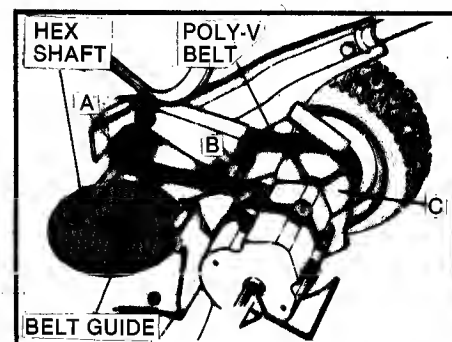

FIG. 18 -POLY-V BELT REPLACEMENT
POLY-V-BELT REPLACEMENT: The driven disc assembly must be removed first. Note the arrangement of the old belt around the three pulleys before cutting and removing it. Slip the replacement belt over the end of hex-shaft and onto pulley (A). Then work it onto idler pulley (B) and twist it sideways and pull upward between the differential bracket and transmission pulley (C) and then down into the pulley's groove. Make sure the belt is in each pulley's groove! Refer to FIG. 18.